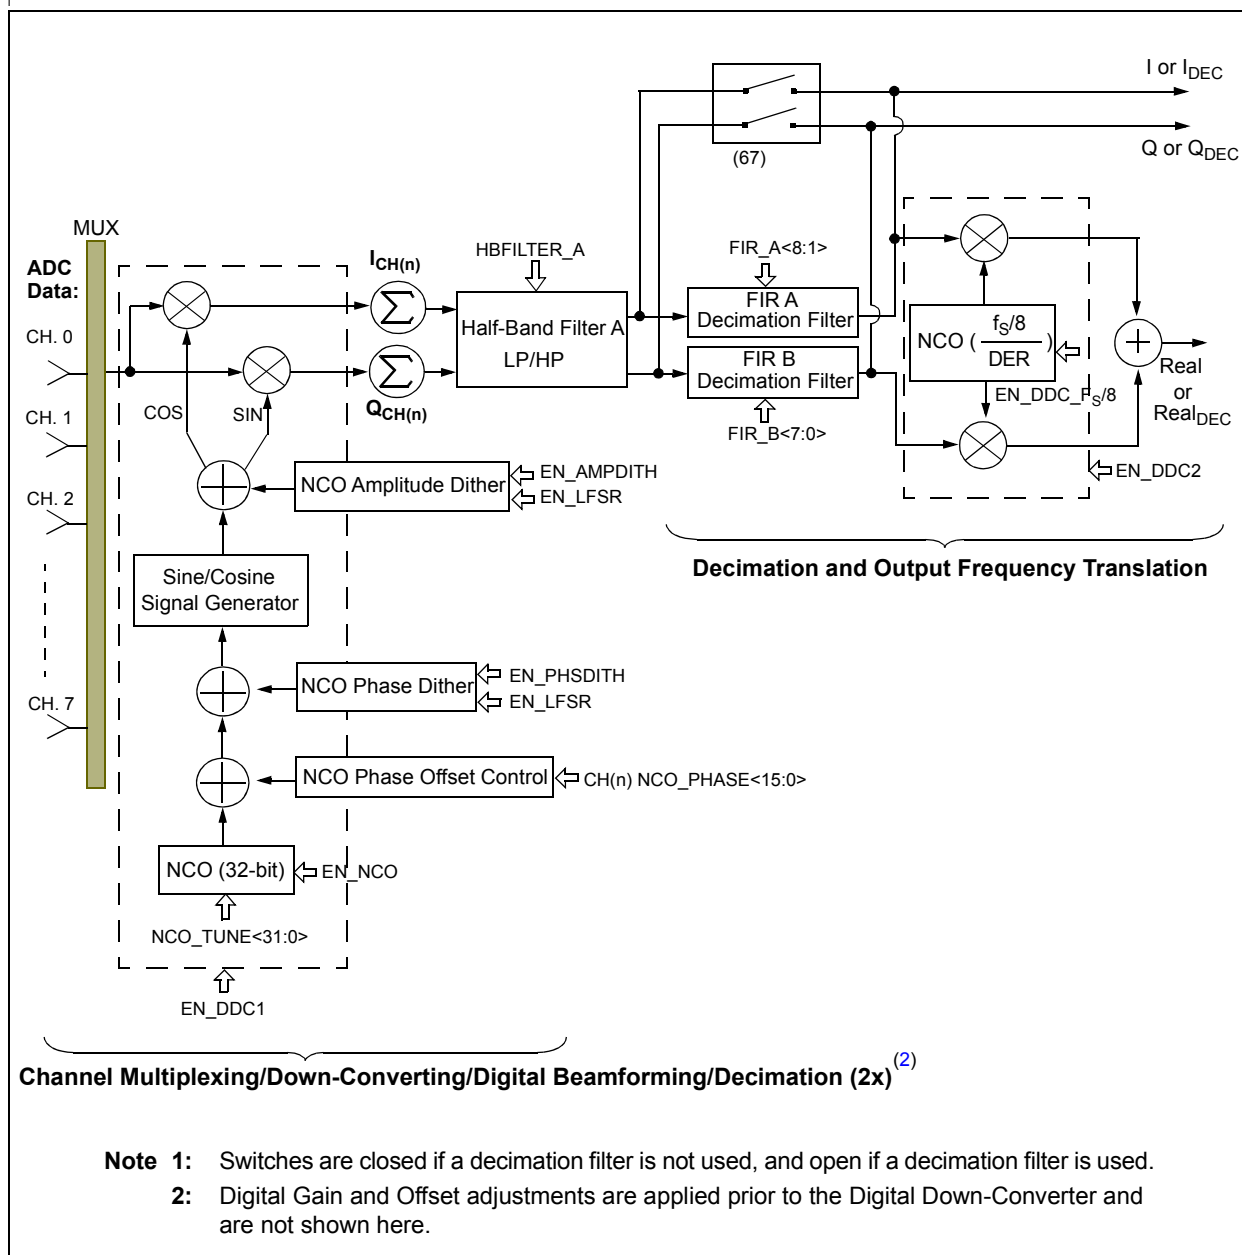

FIGURE 4-23: Simplified Block Diagram of CW Beamforming and I/Q Signal Processing.
Along with beamforming, many modern medical ultrasound devices support Doppler imaging, which processes phase information in addition to the classical magnitude detection (for brightness imaging). Ultrasound Doppler signal processing is used to determine movement in the body as represented by blood flow, which can help diagnose the functioning of a heart valve or blood vessel, etc. In a traditional ultrasound system, all of these functions are typically accomplished with discrete components. Figure 4-23 shows an example of an ultrasound system implementation using various specialized components.
- **Down-Conversion for each channel** with a unique phase of the same NCO frequency prior to summing the eight channels as shown in Figure 4-23.